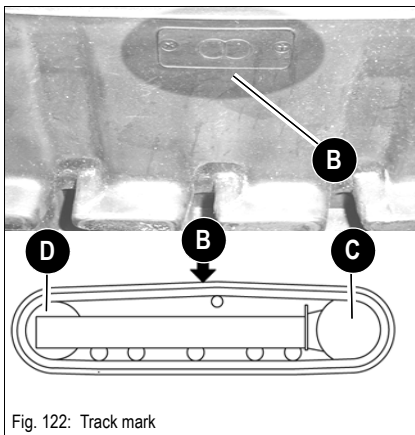

Fig. 122: Track mark
- The track has a mark **B** as shown in Fig. 122